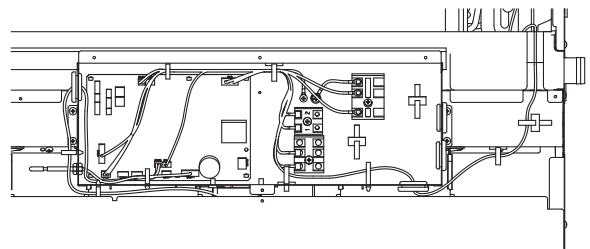

Fig.8
*At this stage, the following servicing is possible. (Fig.8)